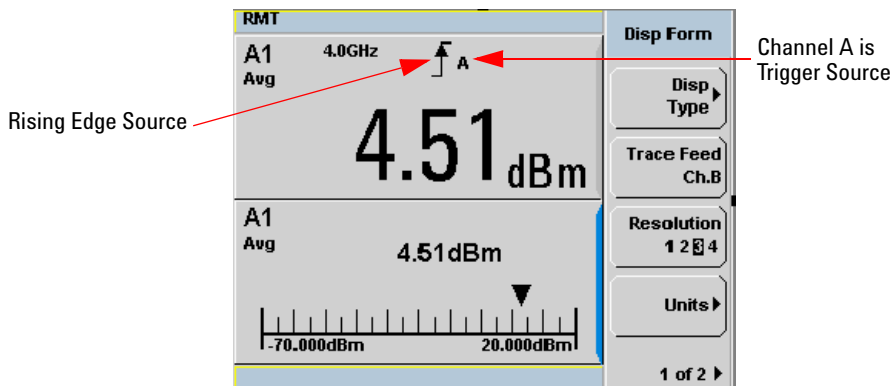
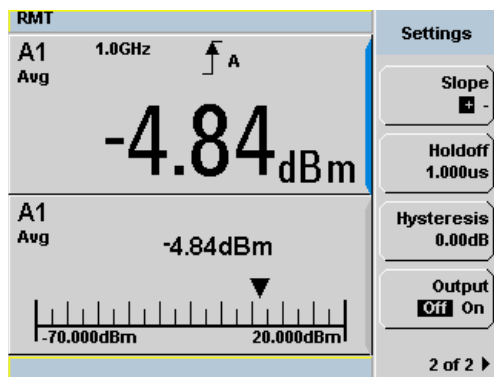

Figure 2-52 Trigger Setting Menu 1 of 2
Figure 2-55 Trigger setting menu 2 of 2
- 3 Press **Settings** to configure the remaining trigger parameters. The trigger **Settings** menu have two pages. Figure 2-52 shows page one and Figure 2-55 shows page two.